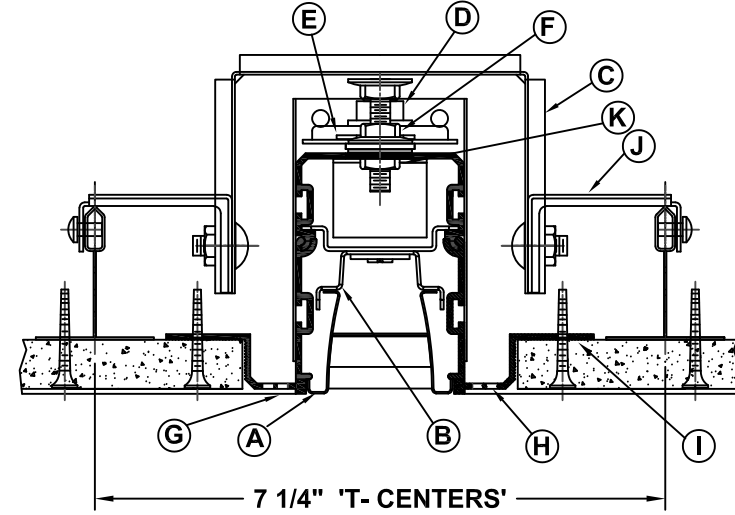

FIG. 1
CEILING CONTRACTOR TO PROVIDE SUPPORT T's OR CARRYING CHANNELS AS DESCRIBED IN STEP 1 ON FRONT PAGE. (REF. FIG. 1 OR 2)
#### DRYWALL "T" CEILING CONSTRUCTION (FIG 1)
CEILING CONTRACTOR TO PROVIDE TWO FIXED MAIN "T's" ON CENTERS INDICATED IN FIG. 1 BY LENGTH OF FIXTURE RUN AS INDICATED ON FACTORY SHOP DRAWINGS. T's SHOULD BE ADEQUATELY SUPPORTED TO CARRY WEIGHT OF FIXTURE.
ADJUST LOWER NUT (K) WITHIN FIXTURE HOUSING SUCH THAT THE SERRATED FLANGE (I) IS FLUSH WITH CEILING FRAMING. TIGHTEN UPPER JAM NUT DOWN ONTO FIXTURE HOUSING TO LOCK IT INTO POSITION. (REF. PAGE 1 FIGURES 1 & 2)
DRYWALL CONTRACTOR TO ATTACH DRYWALL TO PERIMETER FLANGE SERRATED SECTION (I) OF FIXTURE WITH SELF DRILLING DRYWALL SCREWS. (REF. PAGE 1 FIGURES 1 & 2)